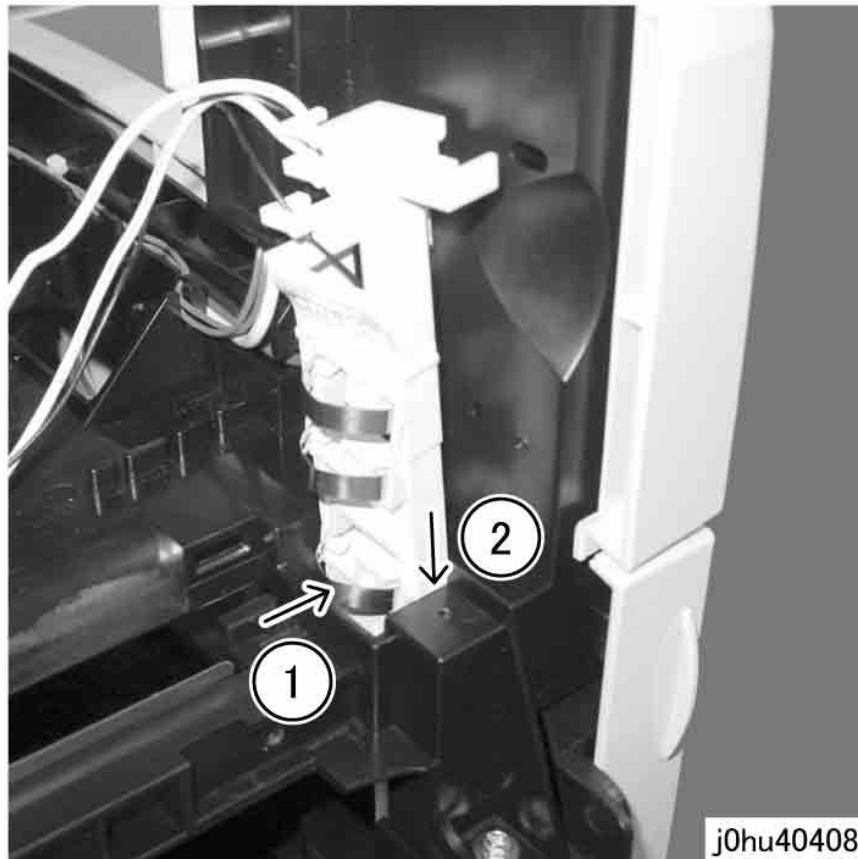

Figure 5 Install Corotron Block
2. Perform the following steps to install the Corotron Block (Figure 5).